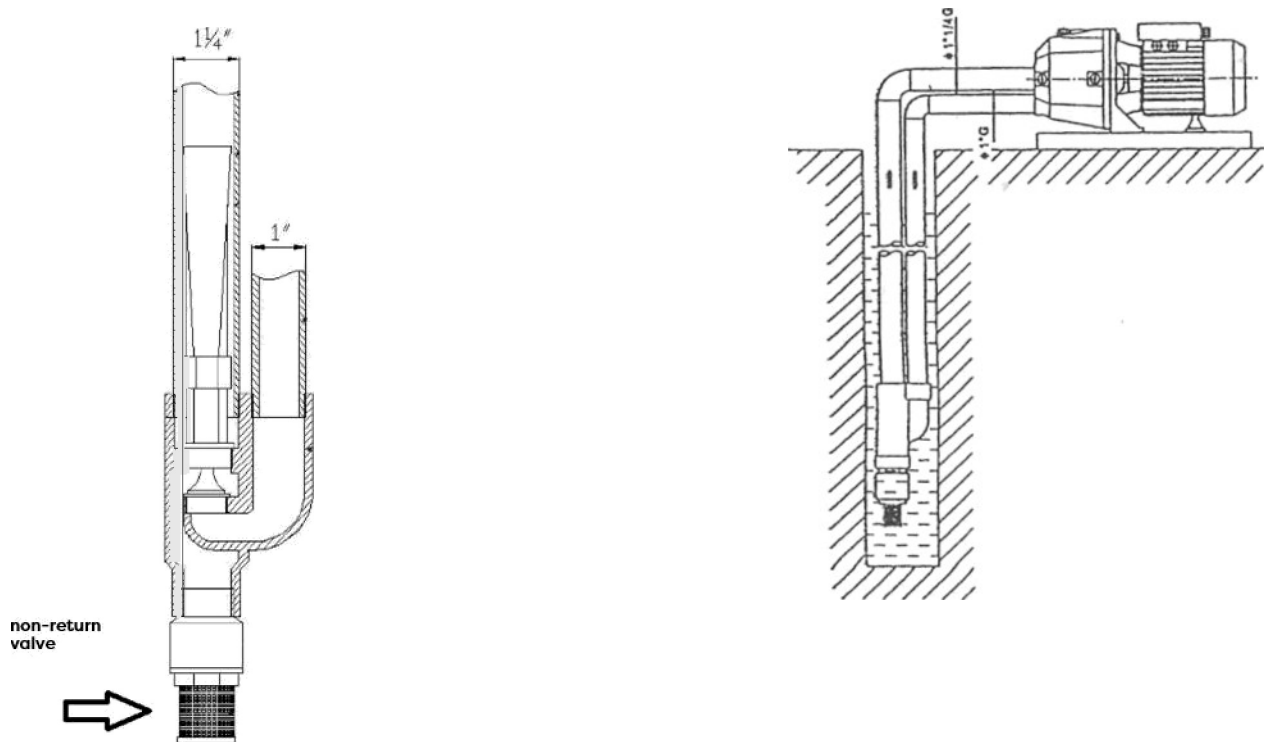

Fig. 1
- On the DP355A pump, fit a non-return valve with a suction basket to the end of the injector (Fig. 1) and, for drilled wells, a non-return valve with a mesh filter.
not used in the winter or there is a possibility of it freezing, the water must be thoroughly drained from the pump. To do this, unscrew the drain plug located in the bottom of the pump housing. For WZ pumps, to drain the discharge casing, unscrew the three bolts (Fig. 1) and slide off the pump casing. Tilting the pump when draining will help to drain the chamber more thoroughly. The operation should be performed carefully. For hydrophores, additionally unscrew the anti-vibration hose nut located at the tank. Freezing water in the pump or in the tank will damage them. Damage caused by frost is not subject to free repair.